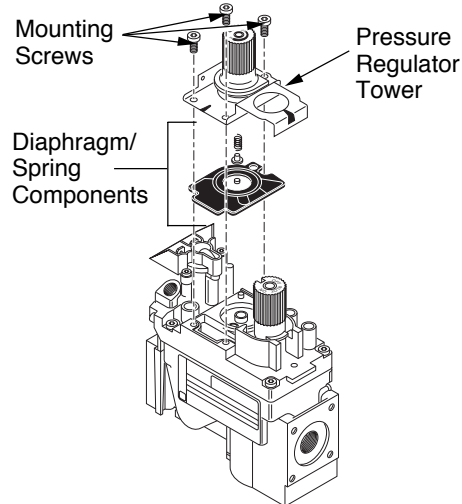

Figure 35 - Removing Parts for Gas Control Valve Conversion
- Using a TORX T20 or a slotted screwdriver, remove and discard the three mounting screws, pressure regulator tower, and diaphragm/spring components (see Figure 35).